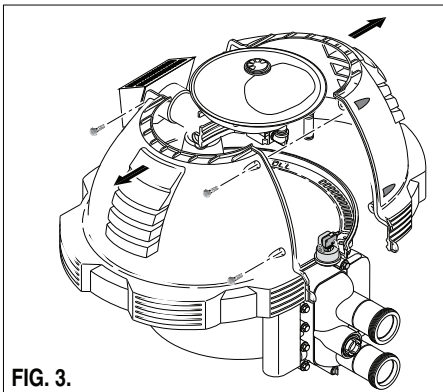

FIG. 3.
2. **Max-E-Therm Heater:** Remove the four (4) bolts from the heater jackets. Remove, see Fig. 3.